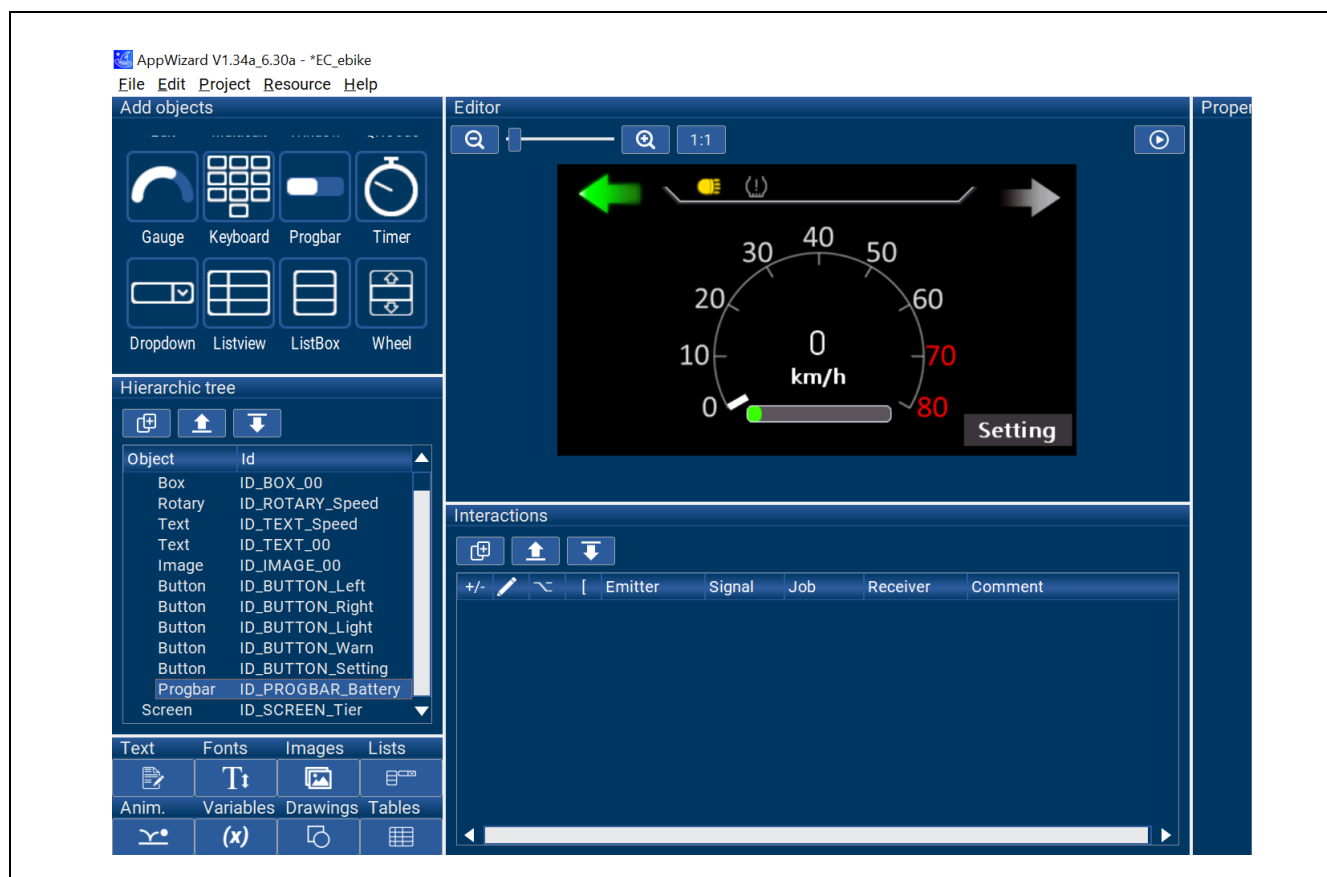

Figure 1-37 Using Progbar Object to Implement Battery Level Bar
- 2) Adjust the positions accordingly as shown in Figure 1-37 once the settings are completed.